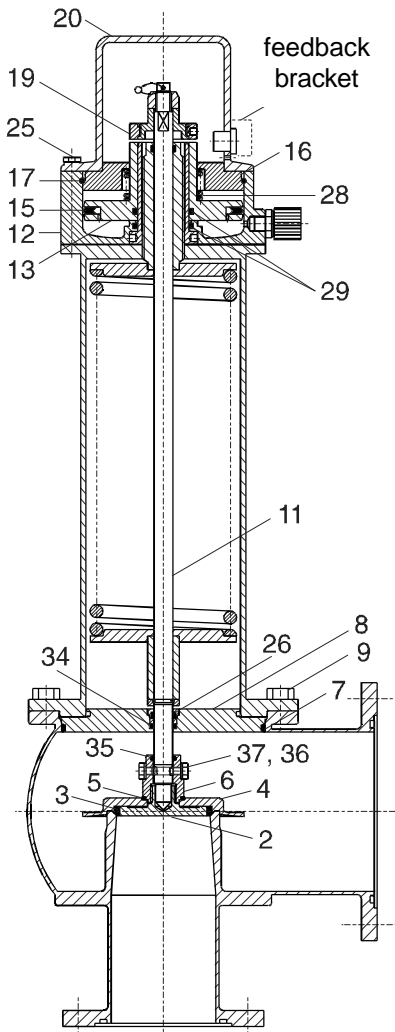

fig. 1
- a. Place the guide strap (26) and the O-ring of the sliding ring (35) in the housing cover (8).
- b. Press the sliding ring (34) into reniform shape and put it into the groove of the housing cover onto the O-ring (fig. 1).
- c. Slide the housing cover (8) onto the pressure rod (11).